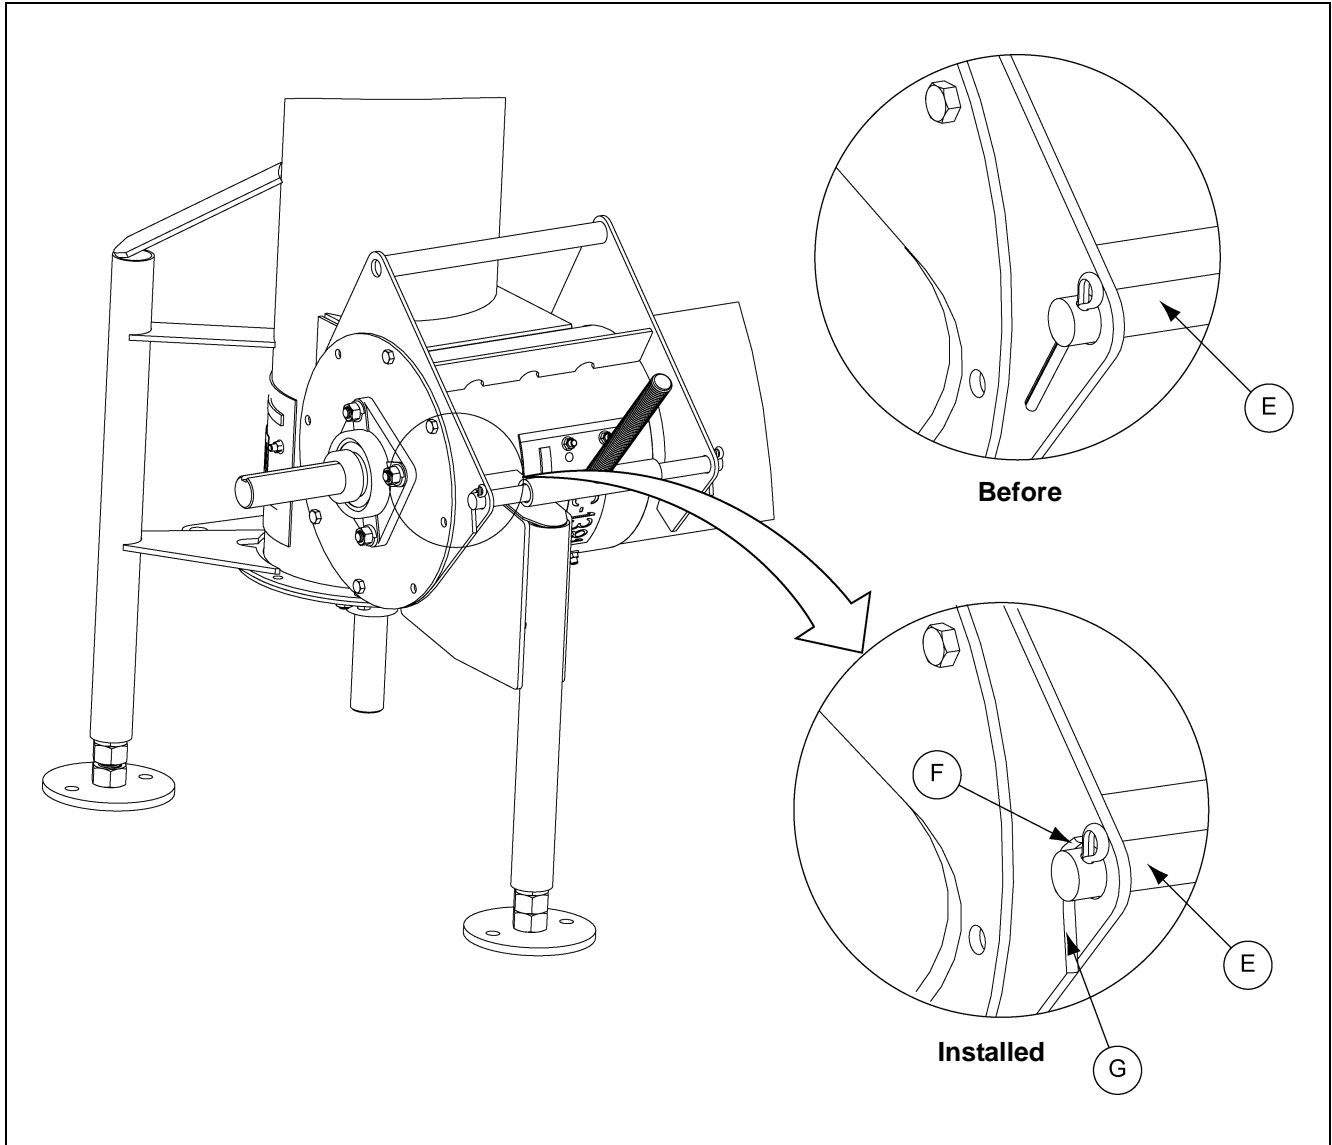

Figure 3G
C. With the cotter pins in the *pivot rod (E)*, bend one tab of the cotter pin back so that it touches the *pivot rod (E)* and bend the other tab of the cotter pin away from the first tab. (See *Figure 3G.*)